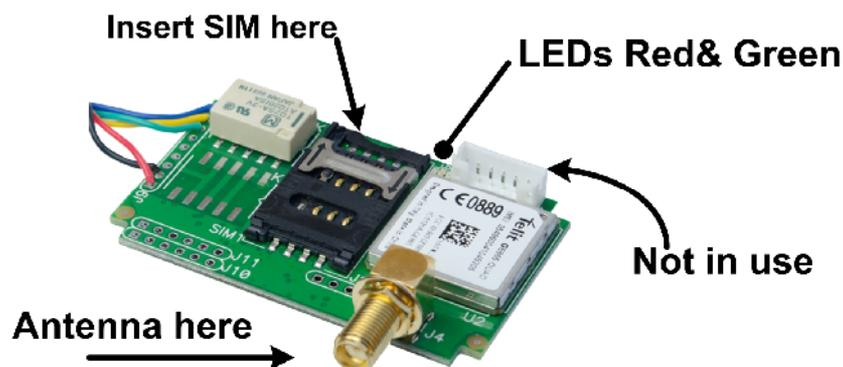

Figure 1: AVG07 SIM card placing and LEDs
Gently insert SIM card to **SIM** slot, located on the PCB, as shown at figure 1.
2. Notice LEDs location as shown in figure 1